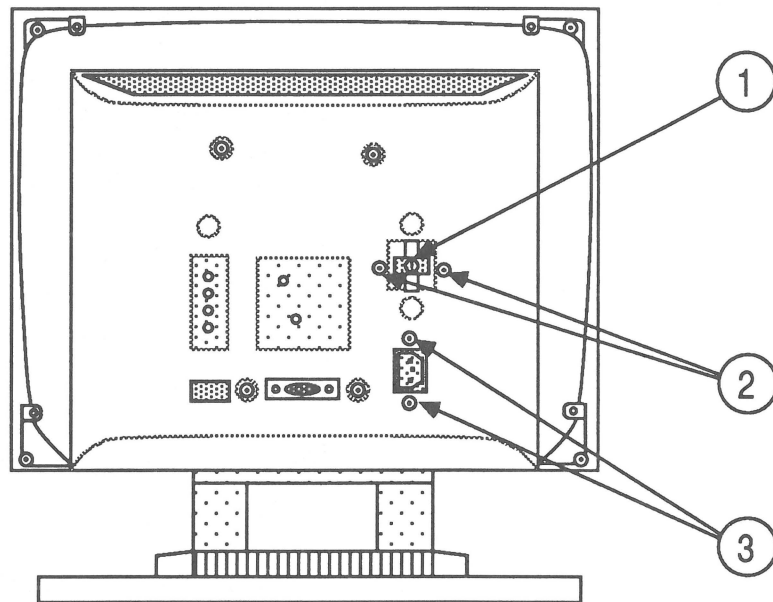

FIGURE 27
8. Pull the plastic knob off the on/off switch shank (Figure 27, #1).
9. Remove the two outside screws that secure the on/off switch to the chassis frame (Figure 27, #2).
10. Remove the two outside screws (Figure 27, #3) that connect the A/C power socket to the chassis frame. Lift out the on/off switch assembly.
2. Replace the two screws that secure the A/C power socket to the chassis frame (Figure 27, #3).
3. Push the on/off switch stem through the top opening, and replace the two screws that secure the switch to the chassis frame (Figure 27, #2).
4. Install the plastic knob on the switch shank (Figure 27, #1).